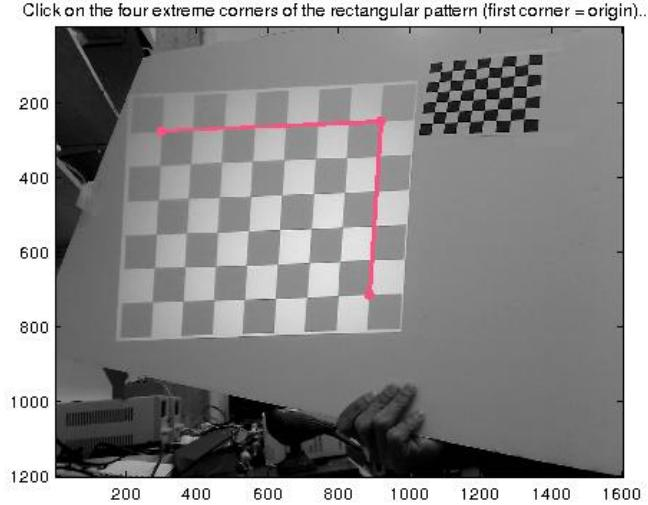

Figure 8: Clicking projected image corners.
3. Click “Ray-plane intersection”. Click grid corners of the projected image as shown in Figure 8. Extract corners for all images as well as the screenshot of the projector image you saved in Section 3.